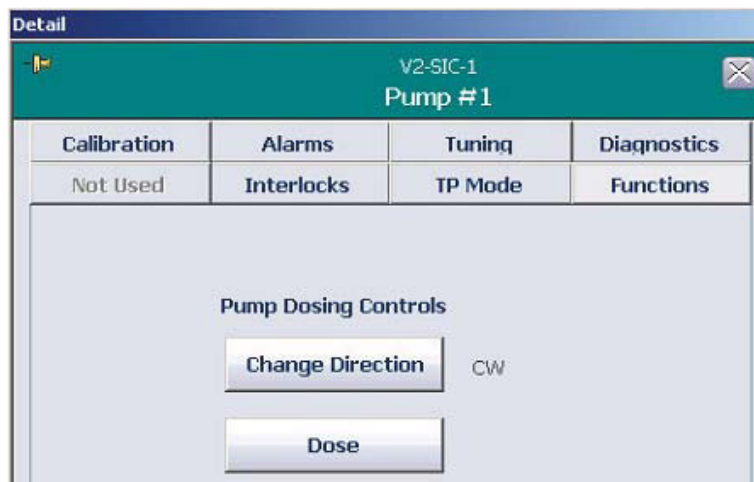

Figure 4.27. Select “Dose” on Pump Dosing Controls screen.
2. Click on the “Functions” tab. Then click **Dose** (Figure 4.27).